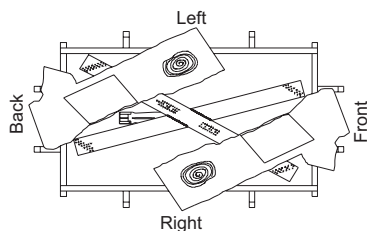

Figure 48 - Installing Logs "A" (Top View)
6. Place logs "A" as shown in Figure 48.